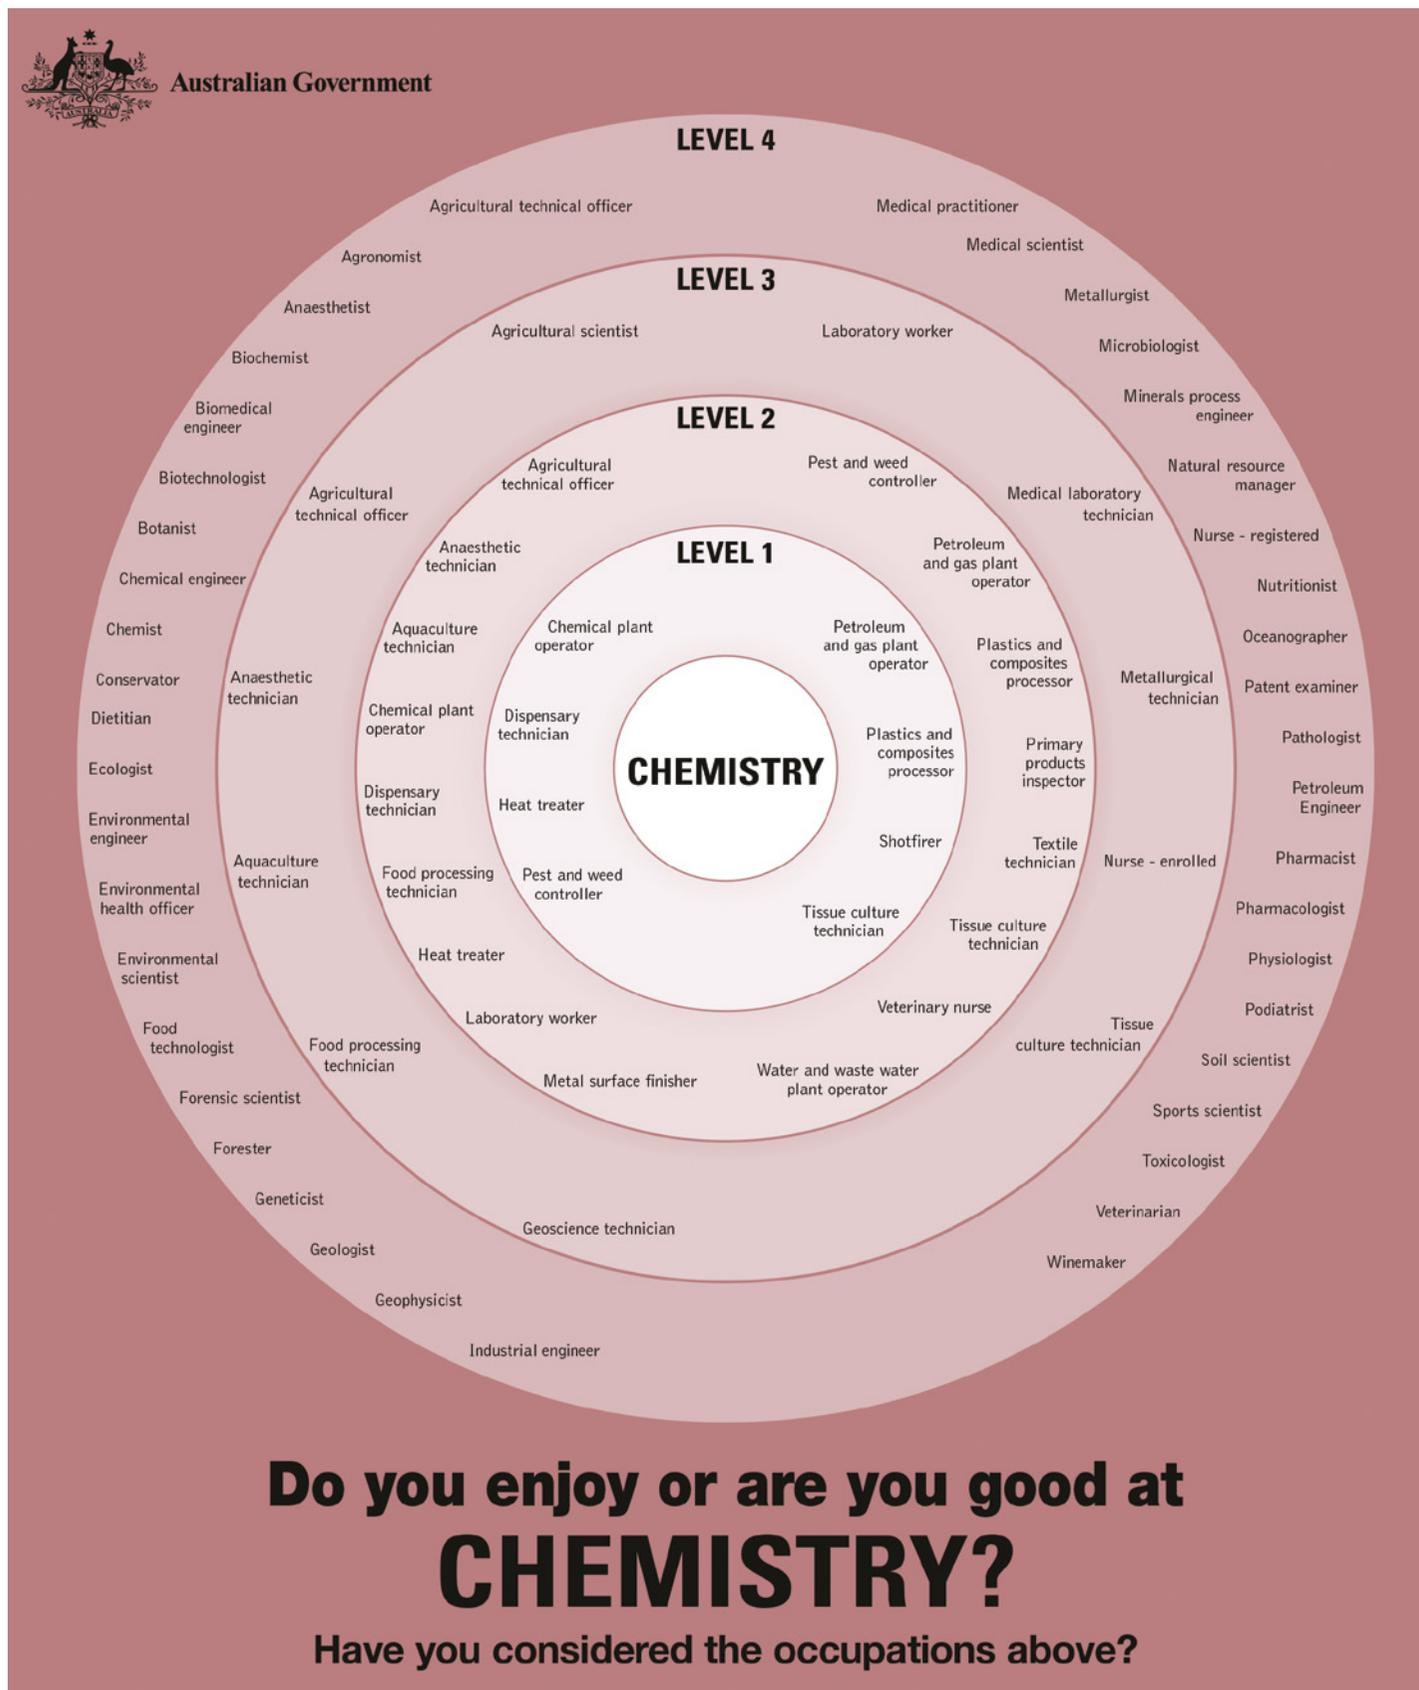

FIGURE 1.1.2 Examples of careers in the fields related to chemistry
A list of some of the careers related to chemistry can be seen in Figure 1.1.2.
- 2 Look at the careers model in Figure 1.1.2.